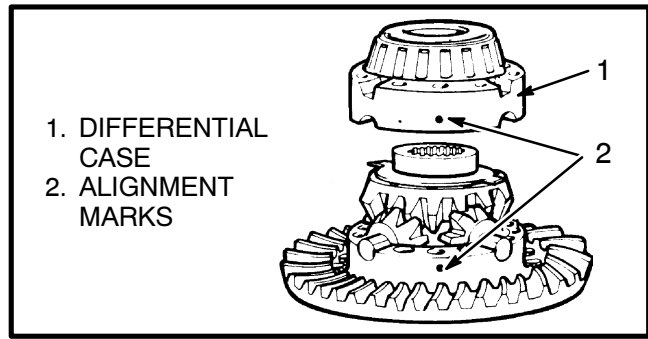

FIGURE 15. INSTALL THE SECOND HALF OF THE DIFFERENTIAL CASE
- e. Put the second half of the differential case over the first half and the gears as shown in FIGURE 15. Make sure the marks are aligned.